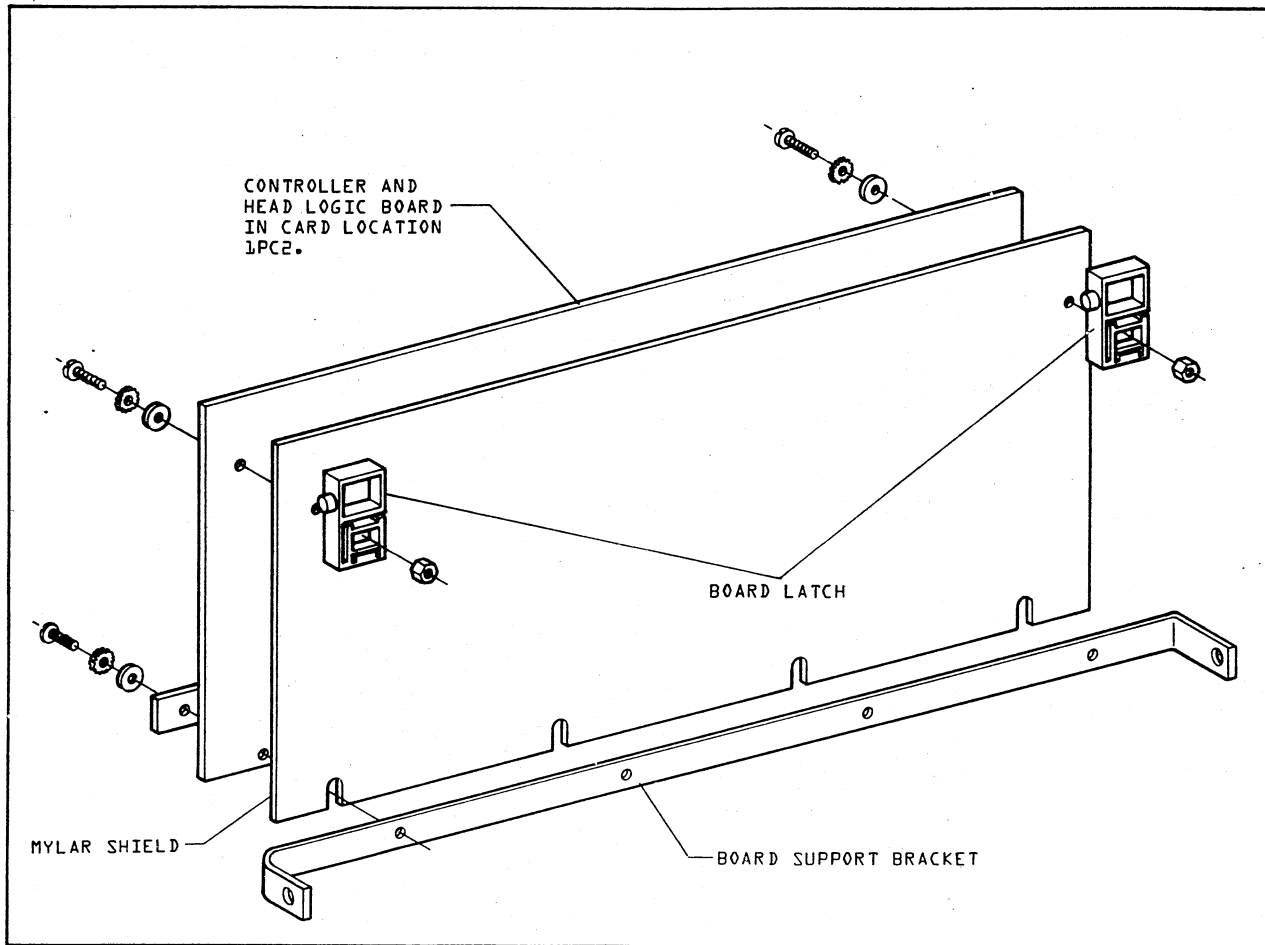

FIGURE 2-3 MYLAR SHIELD INSTALLATION
9. Remove the two screws and related hardware that mount the board latches to the board (Figure 2-3). Remove the two latches.
10. Loosen the four screws that mount the board to the board support bracket, but do not remove them (Figure 2-3).
11. Mount the mylar shield to the foil side of the board as shown in Figure 2-3. This is accomplished by sliding the cutouts in the bottom of the shield between the board and support brackets and over the screws. Remount the board latches and tighten the four support bracket mounting screws.